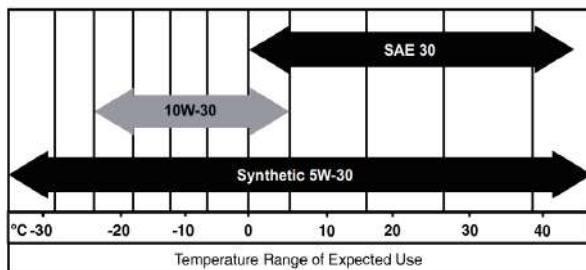

fig.18
- Use 5W-30 four stroke engine oil. Follow fig.18 for temperature range of expected use.